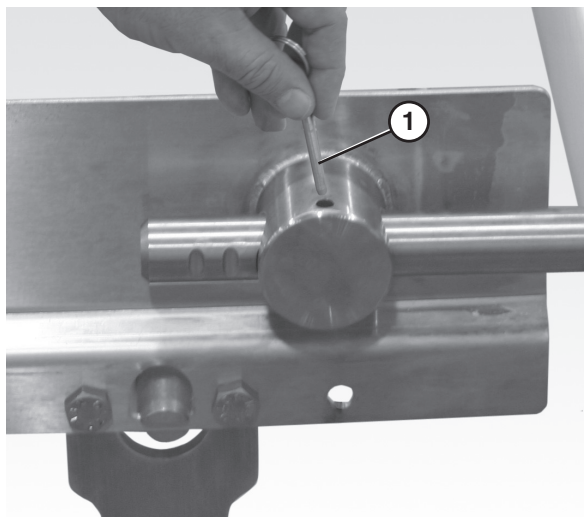

Figure 59
1. Remove the pull pins (**Figure 59, item 1**) on the tension end of the conveyor to release tension on the belt.
1. Remove the pull pins (Figure 59, item 1) on the tension end of the conveyor to release tension on the belt.